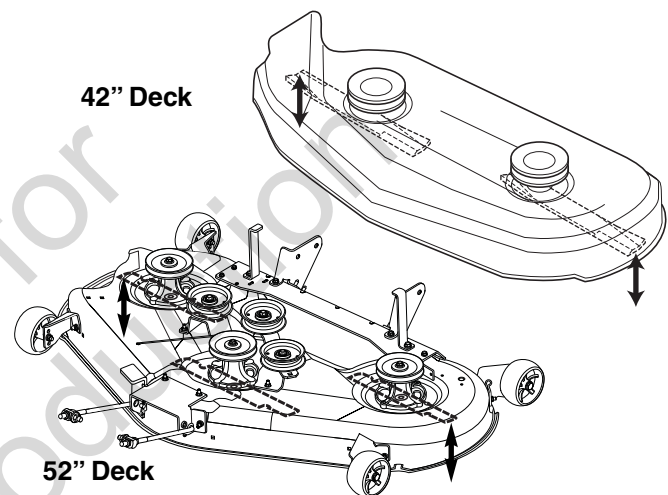

Figure 51. Orient Blades Side-to-Side
4. Set the cutting height to mid position. Arrange the mower blades so that they are pointing from side-to-side (Figure 51).